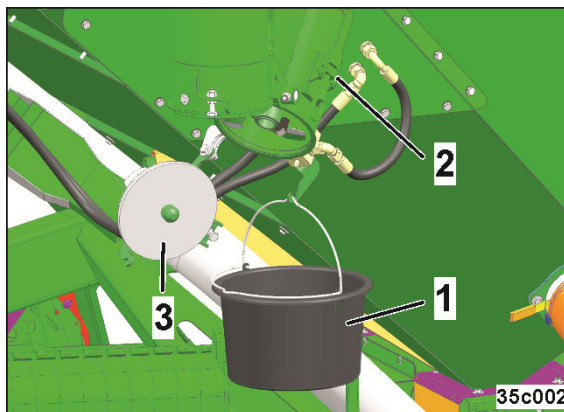

Fig. 247
1. Hook on the collection bucket (Fig. 247/1)
2. Unlock the flap (Fig. 247/2)
3. Open the flap (Fig. 247/3)
10. Close the flap (Fig. 247/3)
11. Lock the flap (Fig. 247/2)